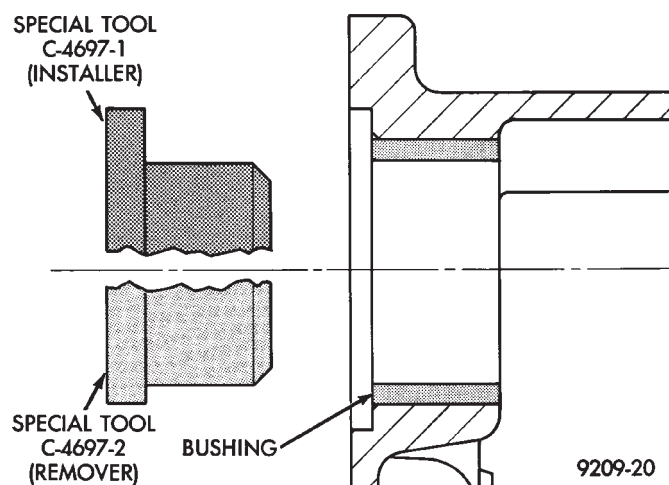
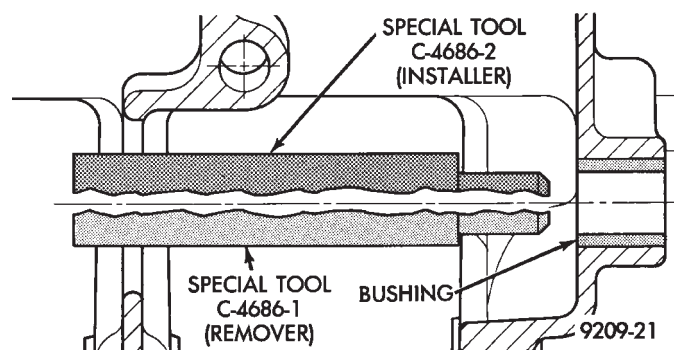

Fig. 26 Intermediate Shaft Bushing, Front
Fig. 27 Intermediate Shaft Bushing—Rear
- (1) Remove front bushing using Special Tool C-4697-2 with Special Tool Handle C-4171 (Fig. 26).
- (2) Install front bushing using Special Tool C-4697-1 and Special Tool Handle C-4171 until tool is flush with block.
- (3) Remove rear bushing using Special Tool C-4686-2 and Special Tool Handle C-4171 (Fig. 27).
- (4) Install rear bushing using Special Tool C-4686-1 and Special Tool Handle C-4171 until tool is flush with block.